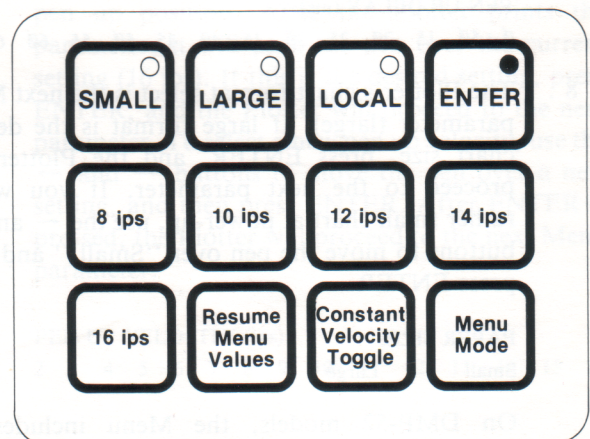

FIGURE 2-3
STATE 2 enables you to toggle the constant velocity option and to make temporary changes to the pen down velocity during plotting activities without having to access the Menu. If the Plotter is placed in STATE 2 from STATE 0 by pressing ENTER, pen down velocities of 8, 10, 12, 14, or 16 ips can be specified by pressing ↓, ←, CLIP LL, CLIP UR, or →, respectively. The constant velocity option can be toggled on and off in this mode by pressing SCALE LL (see Figure 2-3). To resume plotting at the specified Menu values, press ↓.
3. Press ↓ for 8 ips (see Figure 2-3). After ↓ is pressed, the Plotter automatically returns to STATE 0 and continues processing.
4. After the Plotter draws the design at 8 ips, press ENTER for STATE 2. Plotting can be resumed at Menu velocity (16 ips) by pressing ↓ (see Figure 2-3).